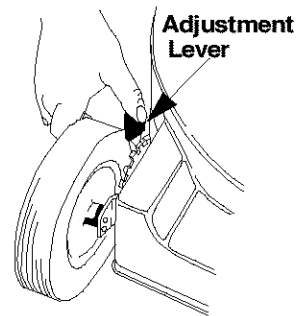

Figure 17
- Simply depress the lever towards the wheel and move the lever assembly to desired position. See Figure 17 .